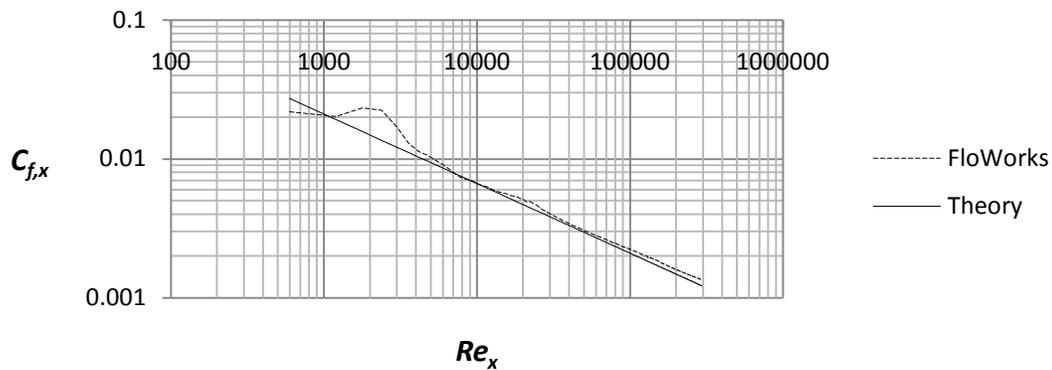

Figure 2.26 Local friction coefficient as a function of the Reynolds number
Place the file “**xy-plot figure 2.26**” into the **Local Disk (C:)/SolidWorks/COSMOSFloWorks/FloWorks/lang/english/template/XY-Plots** folder to make it available in the **Template** list. Repeat step 24 but this time choose the sketch **x = 0 – 0.9 m**, uncheck the box for **X-Velocity** and check the box for **Shear Stress**. Rename the xy-plot to **Local Friction Coefficient**. An Excel file will open with a graph of the local friction coefficient versus the Reynolds number compared with theoretical values for laminar boundary layer flow.
4. Import the file “Leading Edge of Flat Plate”. Study the air flow around the leading edge at 5 m/s free stream velocity and determine the laminar velocity boundary layer at different locations on the upper side of the leading edge and compare with the Blasius solution. Also, compare the local friction coefficient with figure 2.26. Use different values of the initial mesh to see how it affects the results.